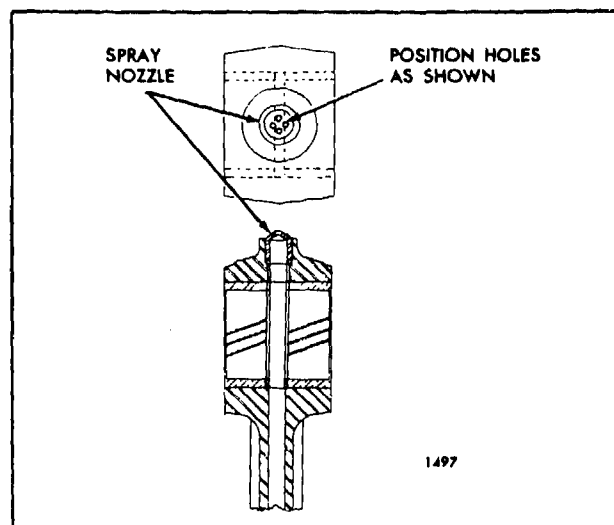

Fig. 6 - Position of Spray Nozzle Holes
6. Start the new spray nozzle, with the holes positioned as shown in Fig. 6, straight into the counterbore in the connecting rod.